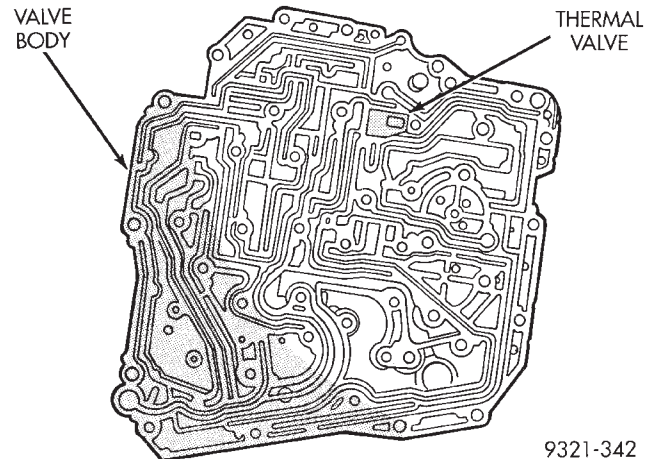

Fig. 63 Thermal Valve Location
(5) Remove 2/4 accumulator retaining plate screws.
(6) Remove thermal valve (Fig. 63).